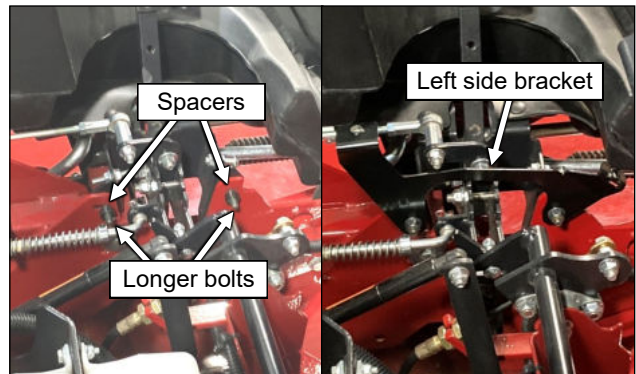

Fig. 10.8 (Left side inner panel bracket)
10.8 See Fig. 10.8. Remove both bolts from the left side control arm mechanism. Place 5/16 x 1-1/4" lg. bolts through the frame flange and control arm mechanism from the outside of the flange. Place a spacer on each bolt, then the left inner panel bracket on the inside of the frame flange and secure with nuts. Tighten to 11 ft-lbs. (15 N-m)